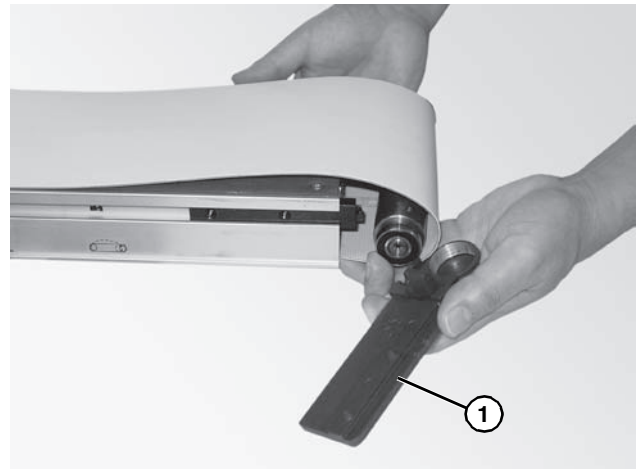

Figure 34
- Remove the head plate (**Figure 34, item 1**) from the conveyor frame.